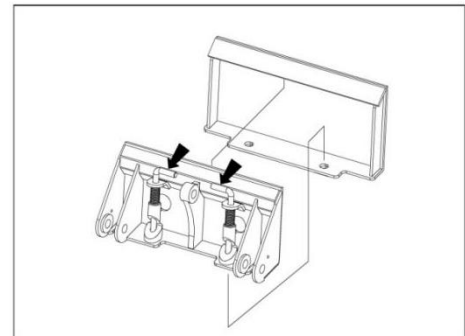

Figure1
2. Ensure that lock pin handles (shown **Figure1**) on mount plate are turned towards center of attachment.
4. Tilt mount plate (2) forward.
5. Position mount plate in the upper lip of the receiver plate (1) on attachment.
6. Raise lift arms while tilting back mount plate (2).